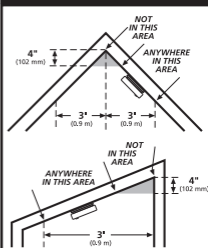

FIGURE 2
- Install Smoke Alarms on sloped, peaked or cathedral ceilings at or within 3ft (0.9m) of the highest point (measured horizontally). NFPA 72 states: "Smoke alarms in rooms with ceiling slopes greater than 1 ft in 8 ft (.3m in 2.4 m) horizontally shall be located on the high side of the room." NFPA 72 states: "A row of detectors shall be spaced and located within 3 ft (0.9m) of the peak of the ceiling measured horizontally" (see FIGURE 2).
If you are not sure about the insulation in your mobile home, or if you notice that the outer walls and ceiling are either hot or cold, install the alarm on an inside wall. For minimum protection, install at least one alarm close to the sleeping rooms. For additional protection, see SINGLE FLOOR PLAN in FIGURE 2.